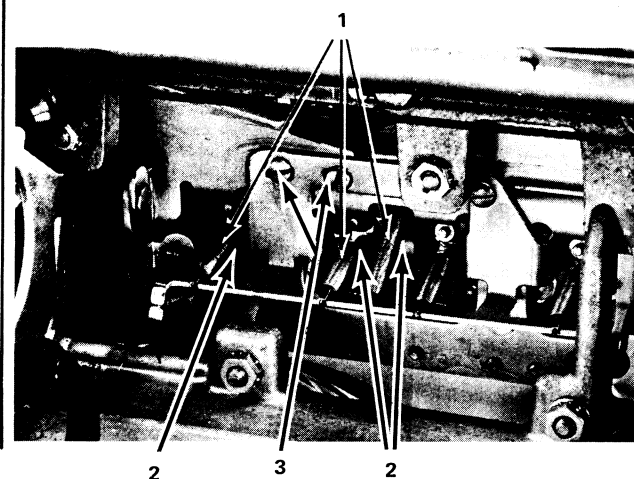

Figure 4-29. Rotate Selection Differential Removal (Rear of Printer, Motor Removed)
7. Remove the rotate-latch springs (No. 1, Figure 4-29).
8. Pull out the rotate links to the rear (No. 2, Figure 4-29).
10. Remove the guide-bracket mounting screws (No. 3, Figure 4-29).